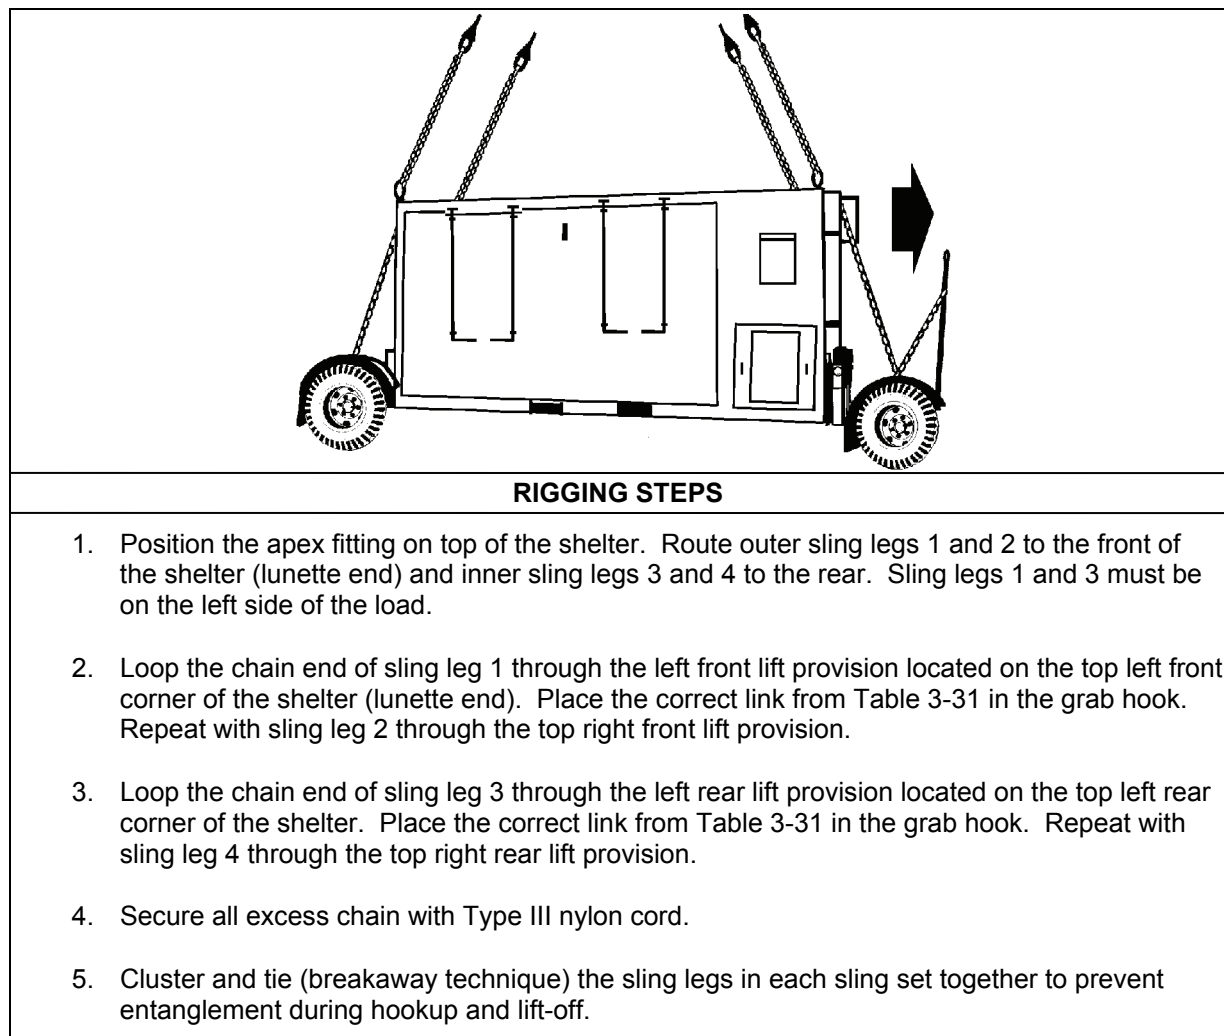

Figure 3-31. Assault Command Post with High Mobility Wheel Set
- **Rigging.** Rig the load according to the steps in Figure 3-31.